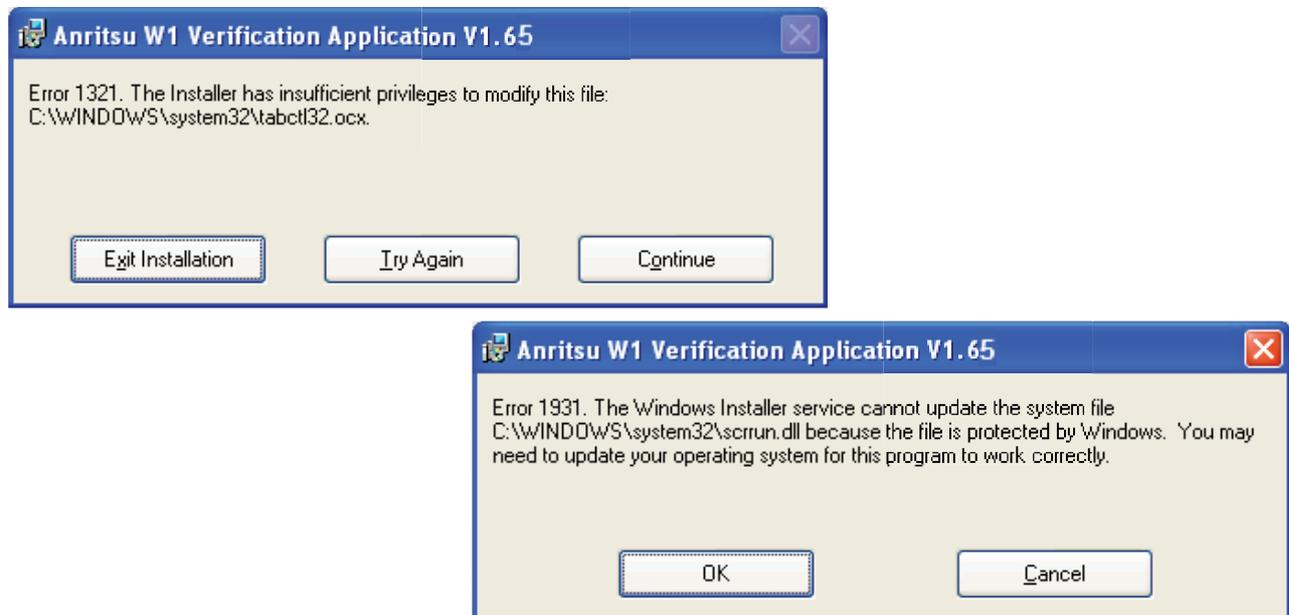

Figure 4-3. Installation Error 1321 and Error 1931 Dialog Boxes
8. If either of the two dialog boxes shown in Figure 4-3 appear that display Error 1321 or Error 1931, follow these instructions: